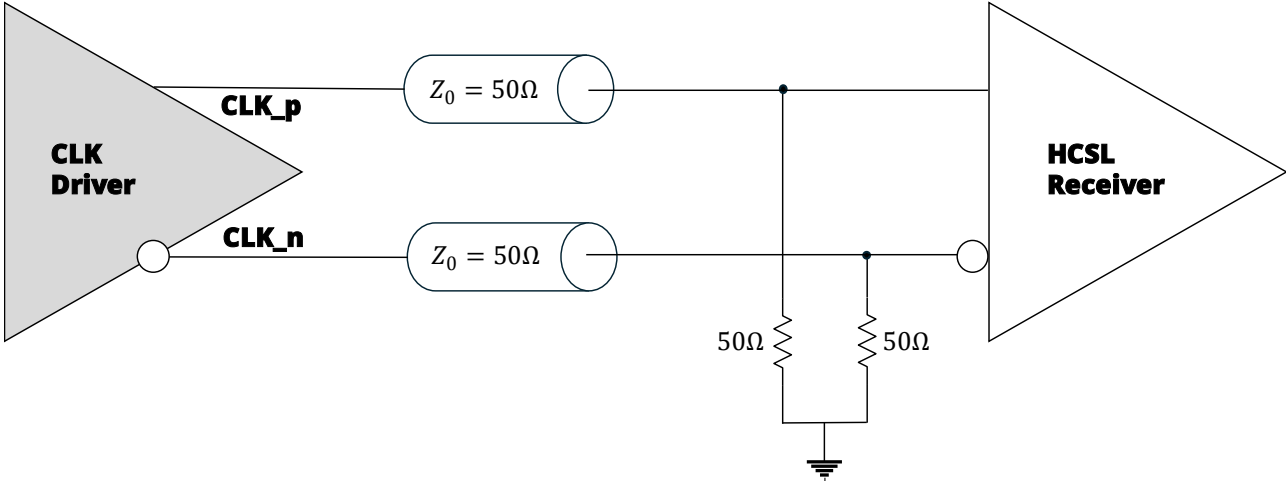

Figure 13. DC-Coupled HCSL (Receiver Termination)
- Updated Figure 13: Output Driver (HCSL); removed AC coupling